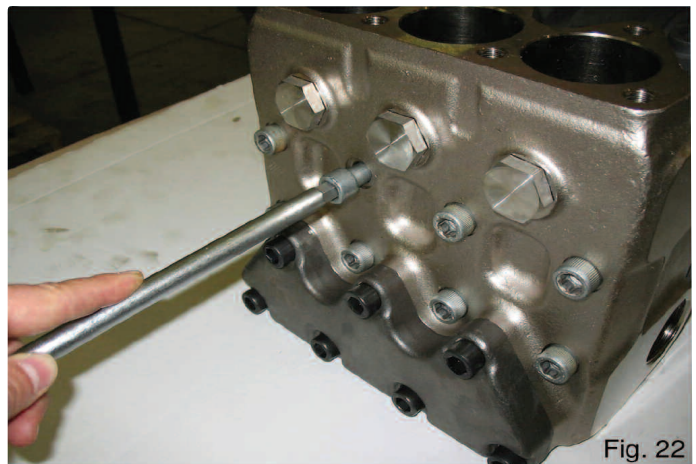

Fig. 22
- A) Remove the fluid end by loosening the 8 bolts (see Fig 22).